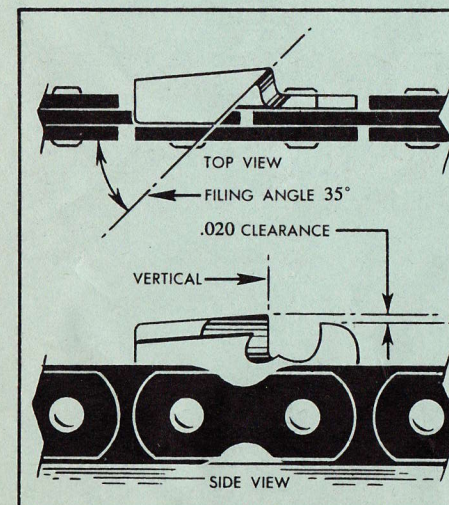

Figure No. 9
2. Place the file so that it is level with and at a 35° angle to the cutting tooth. (See Figure No. 9) Avoid low cutting which leads to "hooks" on teeth. Keep about 1/5 of the file diameter showing above the cutter plate. (For proper filing use CST-11 File Holder Assembly, which gives you the 35° angle and holds the file at a proper position.)